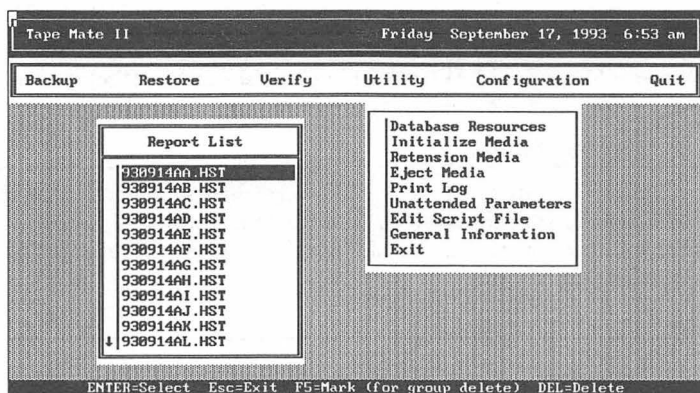

Figure 53 Report List Menu
- 1 Select **Print Log** on the Utility menu. The Report List menu appears, as shown in *Figure 53*. This menu lists all log history files in the directory that contains **Tape Mate II** software.